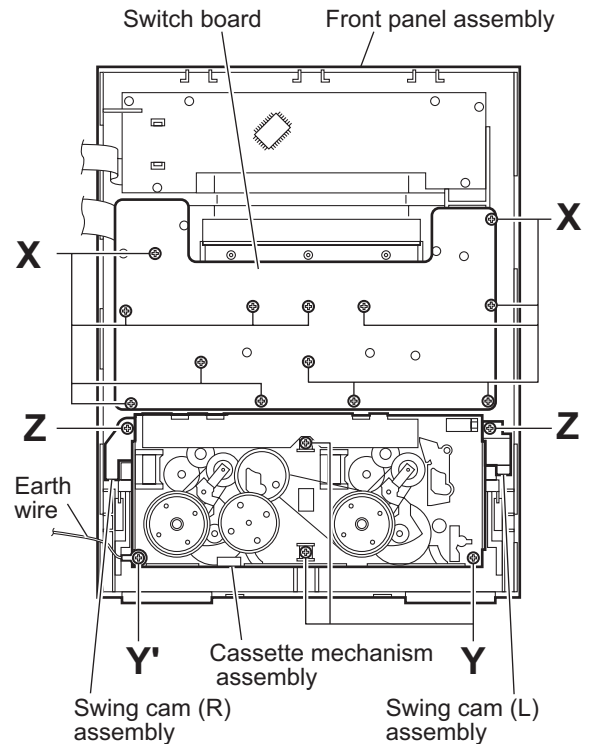

Fig.25
- (3) From the inside of the front panel assembly, remove the thirteen screws **X** attaching the switch board. (See Fig.25.)
- (4) Take out the switch board from the front panel assembly.
(See Fig.25)